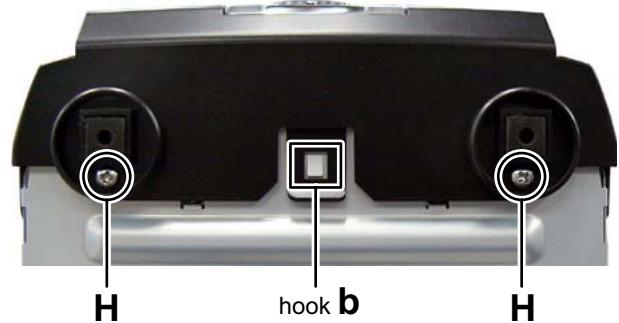

Fig.13
- (3) Remove the two screws **H** attaching the Front panel. (See Fig.13)
- (5) Disengage one hook **b** engaged bottom side of the Front panel. (See Fig.13)